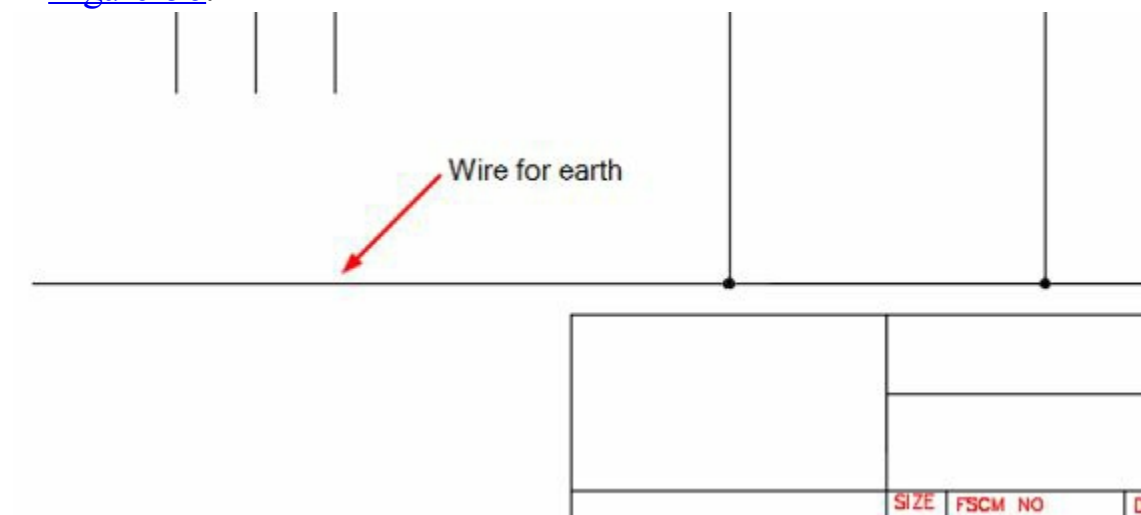

Figure-56. Wire created for earth
- Click on the **Wire** tool from **Insert Wires/Wire Numbers** panel and create a wire for earth; refer to Figure-56.